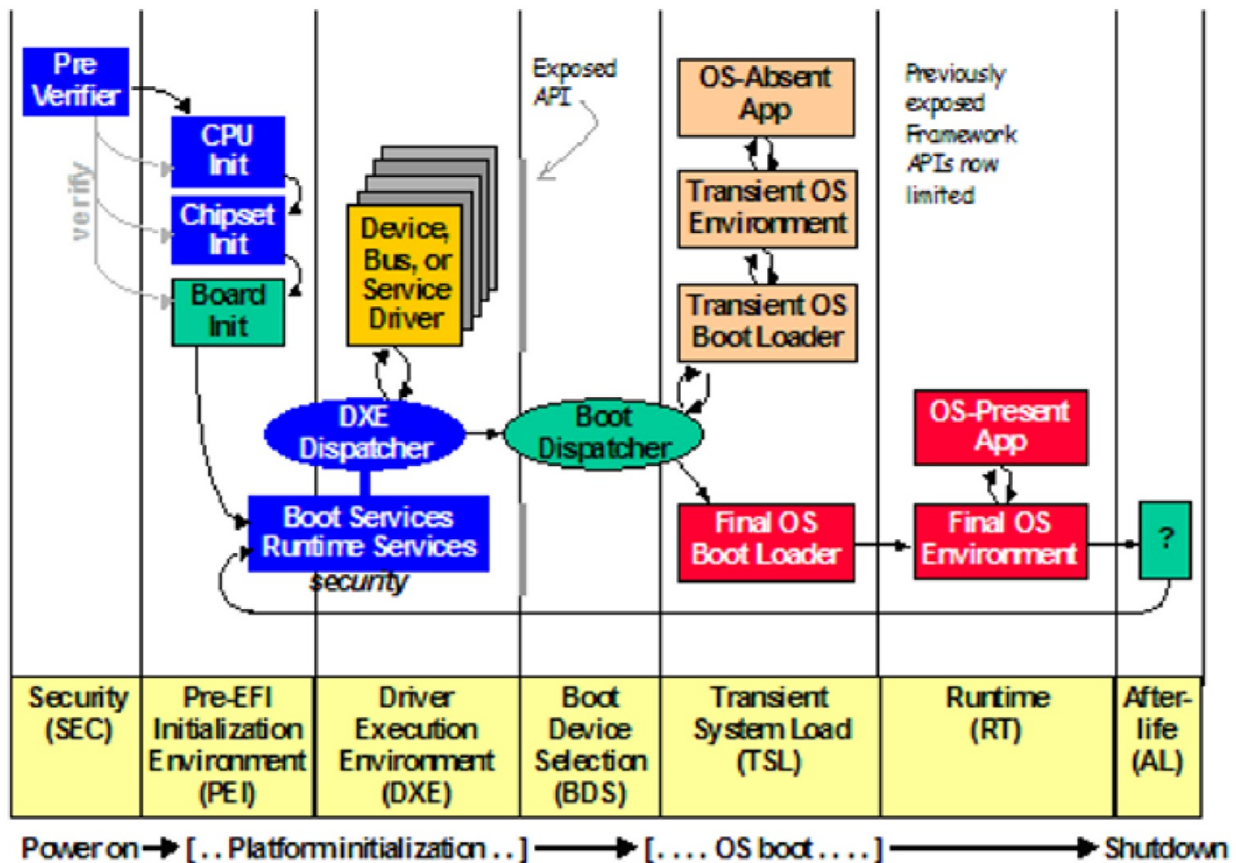

Figure 3 PI Firmware Phases
PI compliant system firmware must support the six phases: security (SEC), pre-efi initialization (PEI), driver execution environment (DXE), boot device selection (BDS), run time (RT) services and After Life (transition from the OS back to the firmware) of system. Refer to Figure 3 below.